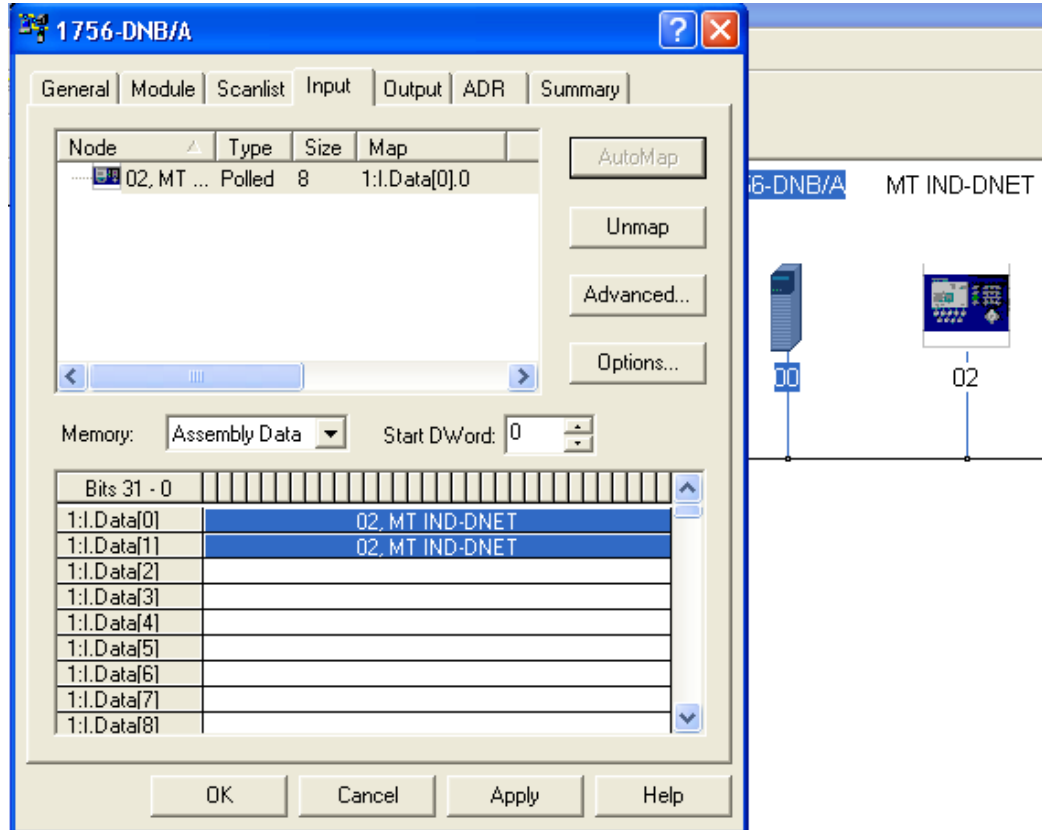
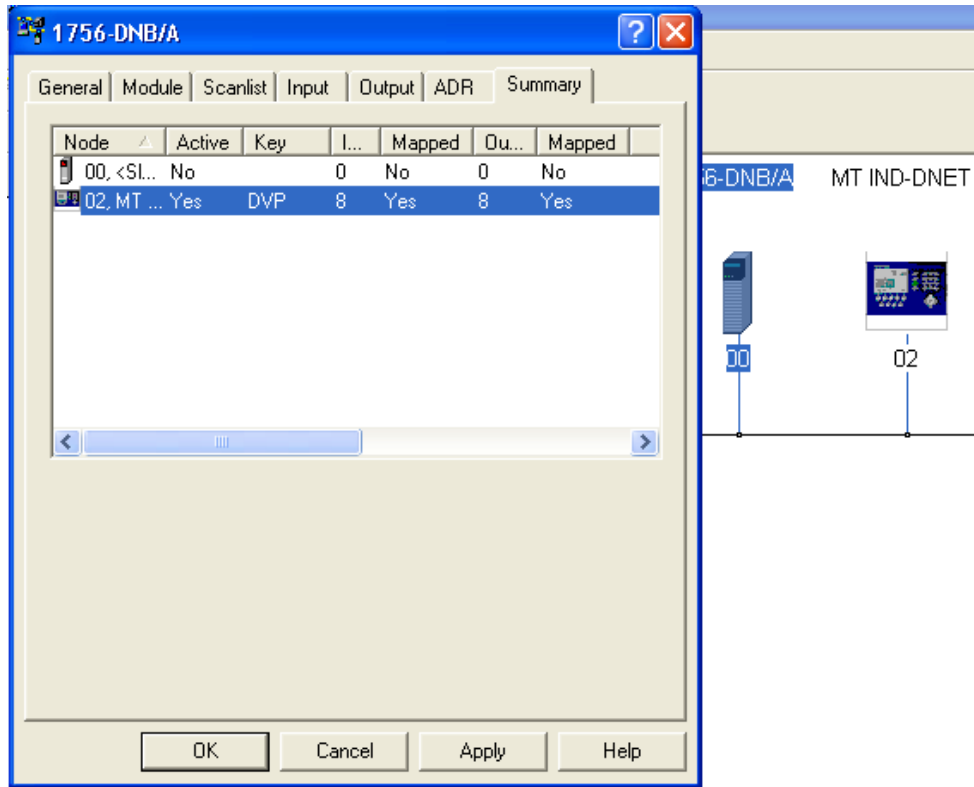

Figure 5-27: IND Terminal Mapping
Figure 5-28: Summary Tab
11. Once the IND Terminal has been added to the scanlist, access the Properties dialog to verify its I/O mapping (Figure 5-27 and Figure 5-28) within the scanner card. Note that auto or manual mapping can be used. Consult the master's documentation for advance I/O mapping options. If manual mapping is used. Be sure to start with an unused section of memory for offset.